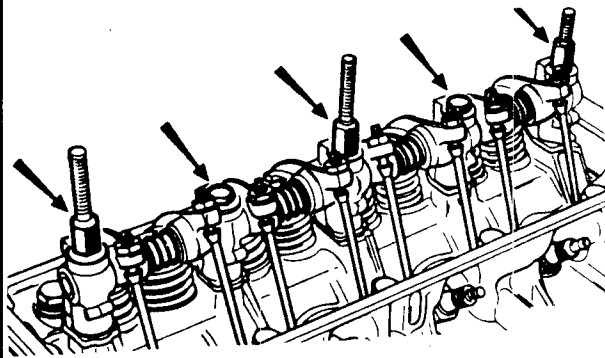

Fig.1.19 Rocker securing bolts and nuts on type 697 and 821 engines
- 2 Unscrew the three studs and two bolts which secure the rocker shaft pillars, Fig.1.19. Unscrew each of these a turn or two at a time in alternate sequence to avoid any possibility of distortion to the shaft by the pressure of the compressed valve springs.